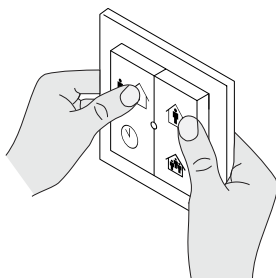

Fig. 7
2. Press and hold down the two upper or two lower buttons (fig. 7).